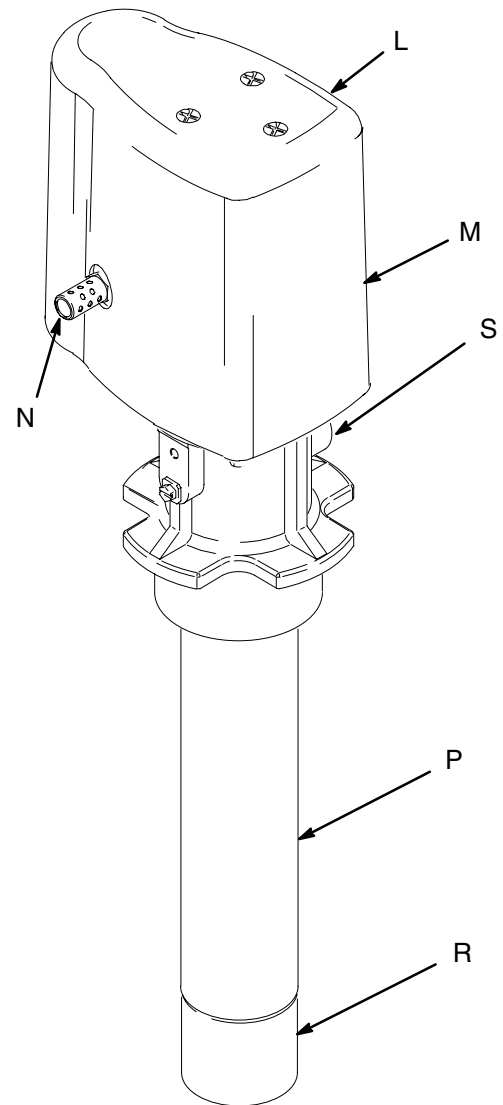

Fig. 1
This equipment consists of two major components: the air motor (M) and the displacement pump (P). See Fig. 1. The pump is an in-line design, which means that the displacement pump screws directly into the motor, without the use of tie rods or connecting rods. The displacement pump can be placed directly in the fluid being pumped.
Make sure the muffler is securely installed in the exhaust port (N) before you operate the pump. See Fig. 1.